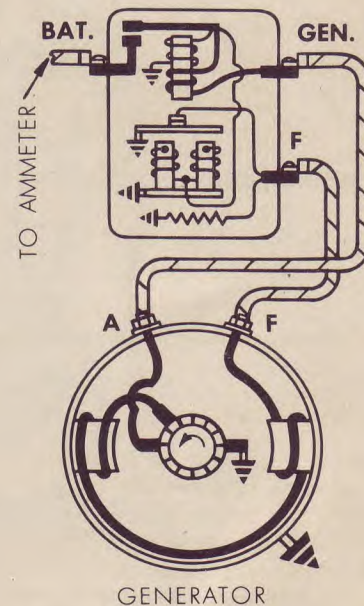

**FIGURE 2-4**
**The Cut-Out Relay** (Figure 2-4) has two windings assembled on a core, a current winding of a few turns of heavy wire which carries full generator output, and a voltage winding of many turns of very fine wire which is connected across the generator so that full generator voltage is impressed upon it at all times. Above the winding core is a flat armature which carries a contact point. When the generator is not operating, the armature is held away from the windings by spring tension. When the generator begins to operate,